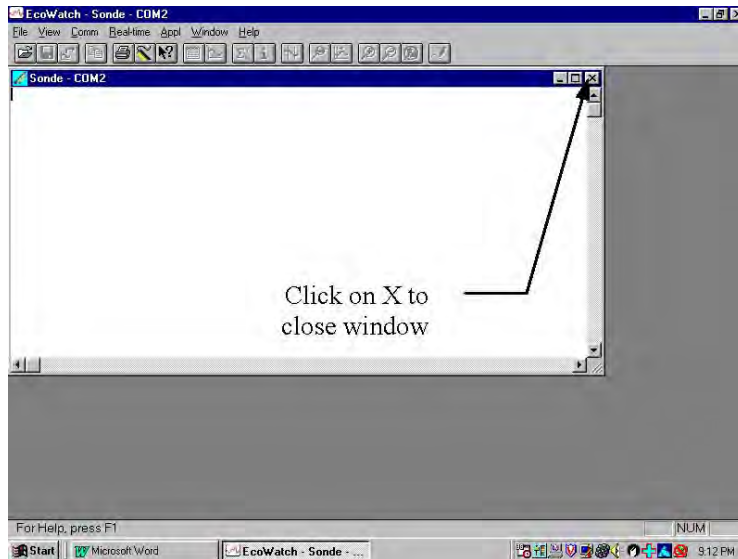

**Figure 8.3 File Transfer Progress Screen**
4. Press the **Enter** key. The file list screen is displayed. See Figure 8.3 File List Screen.